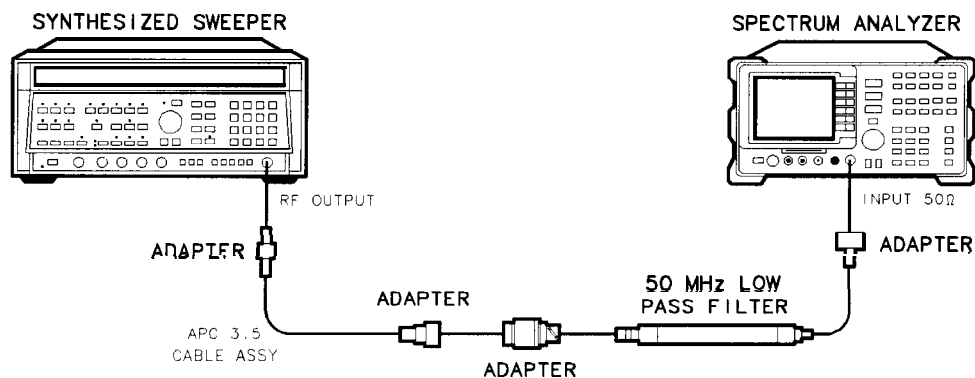

Figure 2-49. Second Harmonic Distortion Test Setup
2. Connect the equipment as shown in Figure 2-49.